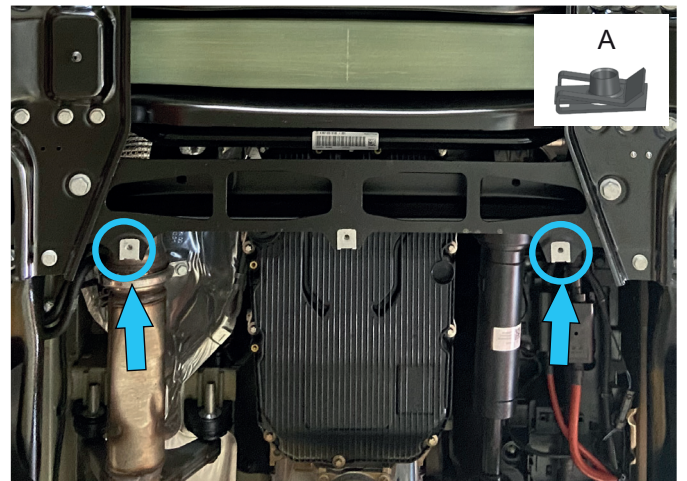

Fig. 4
3. Replace OEM cage nuts with U-nuts (item A), as shown in fig.4.